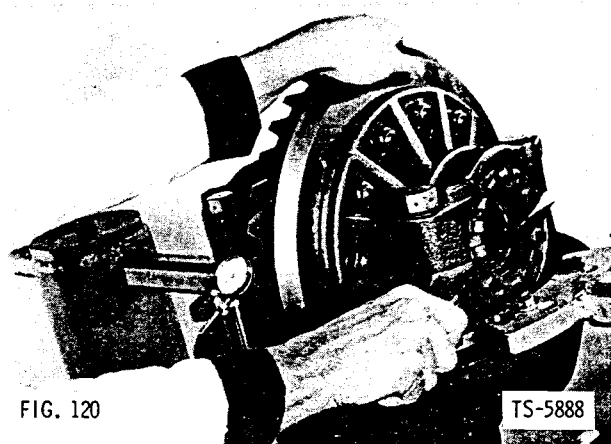

FIG. 120
11. Use a dial indicator to check backlash between ring gear and pinion shaft gear. Backlash is adjusted by moving ring gear toward or away from pinion shaft gear as shown in Fig. 120. Move ring gear by loosening one adjusting nut and tightening opposite lock nut. When loosening one lock nut and tightening opposite, move each lock nut same distance so that bearing adjustment made in previous paragraph is not disturbed. Adjust position until gear backlash is between .009 inch and .013 inch for ring gears measuring 16-3/8 inches in diameter and .010 to .015 for ring gears measuring 18-1/2 inches in diameter if new gear set is used. Adjust to backlash noted at disassembly for old gears if original ring and pinion set is re-used.